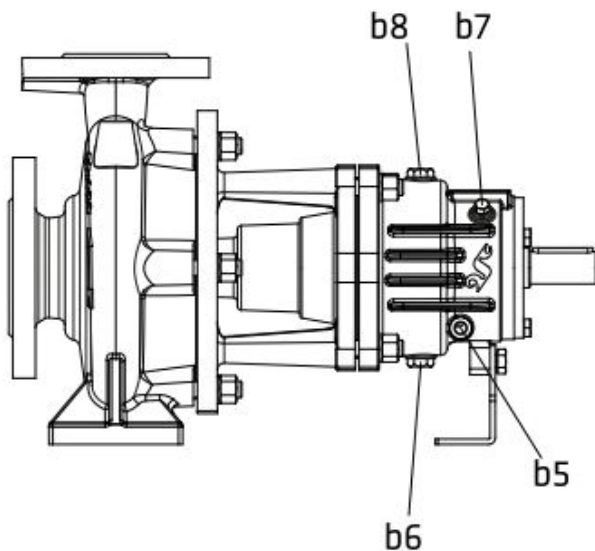

Figure 6
- Every pump is fitted with connections on the pump casing to drain the pump and the bearing bracket to evacuate the seal leakage from the stuffing box (**Figure 6,7**). If required the pump drain and seal leakage can be piped to a suitable reservoir. The pump draining piping must be fitted with an isolating valve and both must be suitable for the maximum operating pressure of the pump.